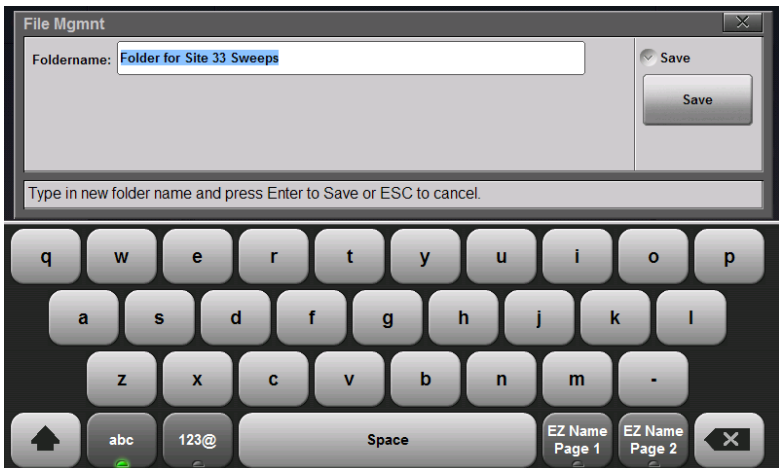

Figure 10-25. Name the Created Folder
4. Name the folder using the on-screen keyboard. Refer to “Choose the File Name” on page 10-9 for additional information (Figure 10-25).